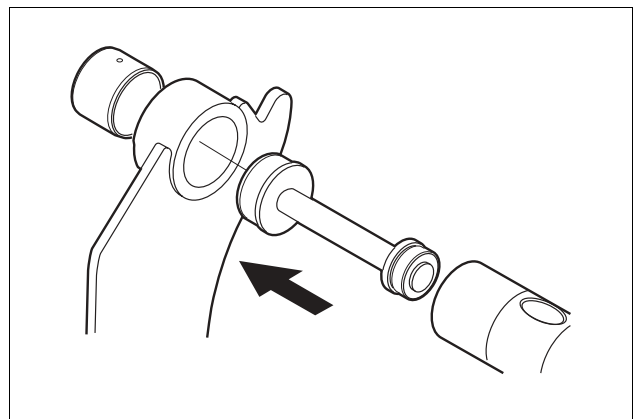

Fig. 37 Remove bushings
7. Remove the bushings. See Fig. 37.